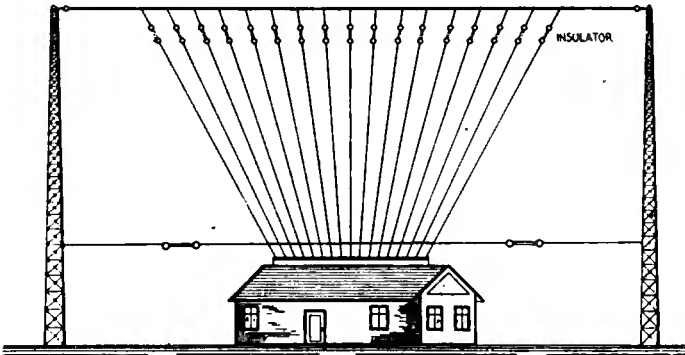

Figure 109
- (1) Figure 109. To show the construction of the vertical or fan aerial.
The vertical aerial in figure 109 consists of a fan or harp of copper or silicon bronze